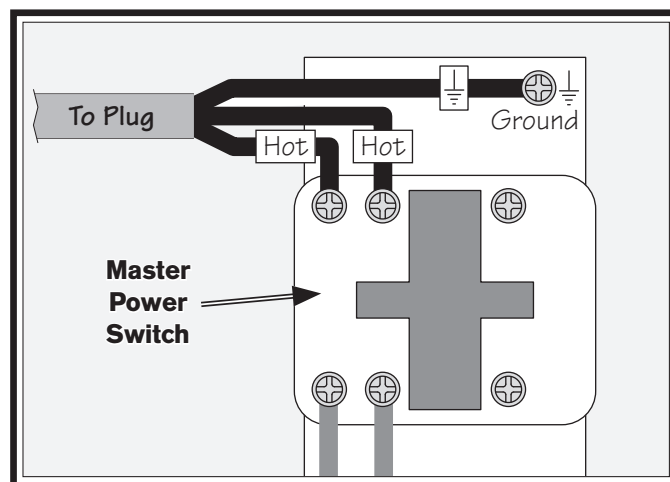

Figure 21. Power connection at master power switch.
3. Connect the incoming hot wires to the upper master power switch terminals, as illustrated in **Figure 21**.
4. Connect the incoming ground wire to the ground terminal on the switch bracket, as illustrated in **Figure 21**.